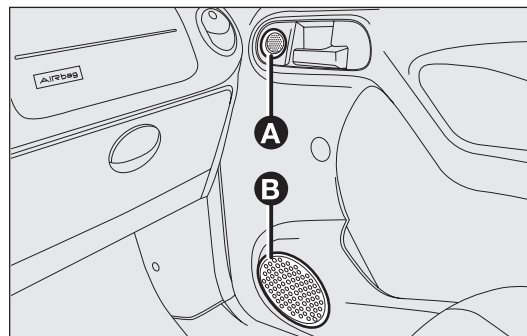

fig. 95
- ☐ two tweeters A – fig. 95 and two woofers B, 40 W max. power each, on the front doors;